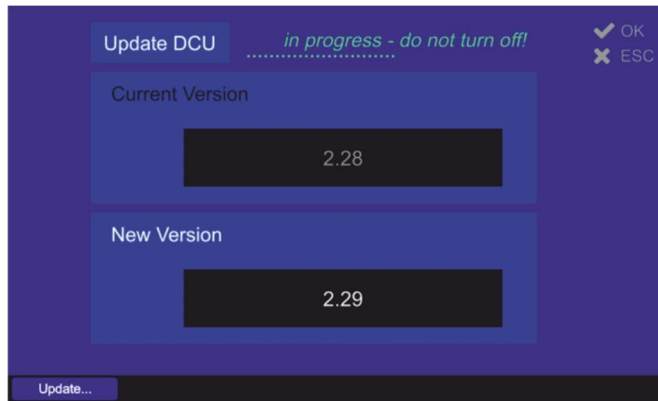

Figure 167. Update DCU in progress
- Pressing the hotkey “Start Update” will start the update from USB. During the update, the text of the hotkey changes to “Update...” (s. Figure 167) and the warning at the top of the display appears.